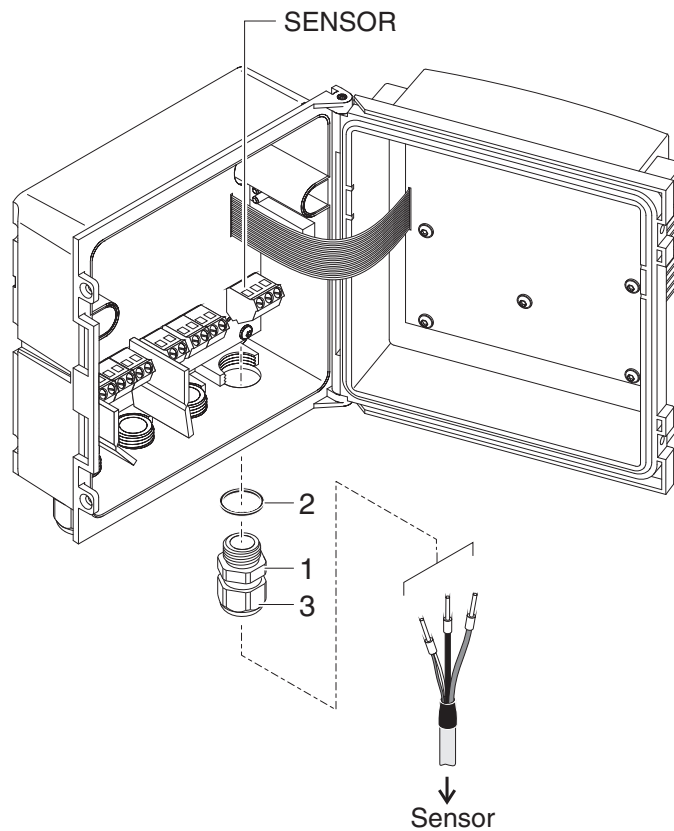

Fig. 3-1 Connect the cable (example DIQ/S 181)
2	Screw the cable gland (no. 029 212, pos. 1 in Fig. 3-1) with the sealing (pos. 2) into the enclosure at the mounting position for the SENSOR connection (see label on the bottom of the enclosure)
3	Loosen the cap nut (pos. 3 in Fig. 3-1).
| 6 | Tighten the cap nut (pos. 3 in Fig. 3-1).   |